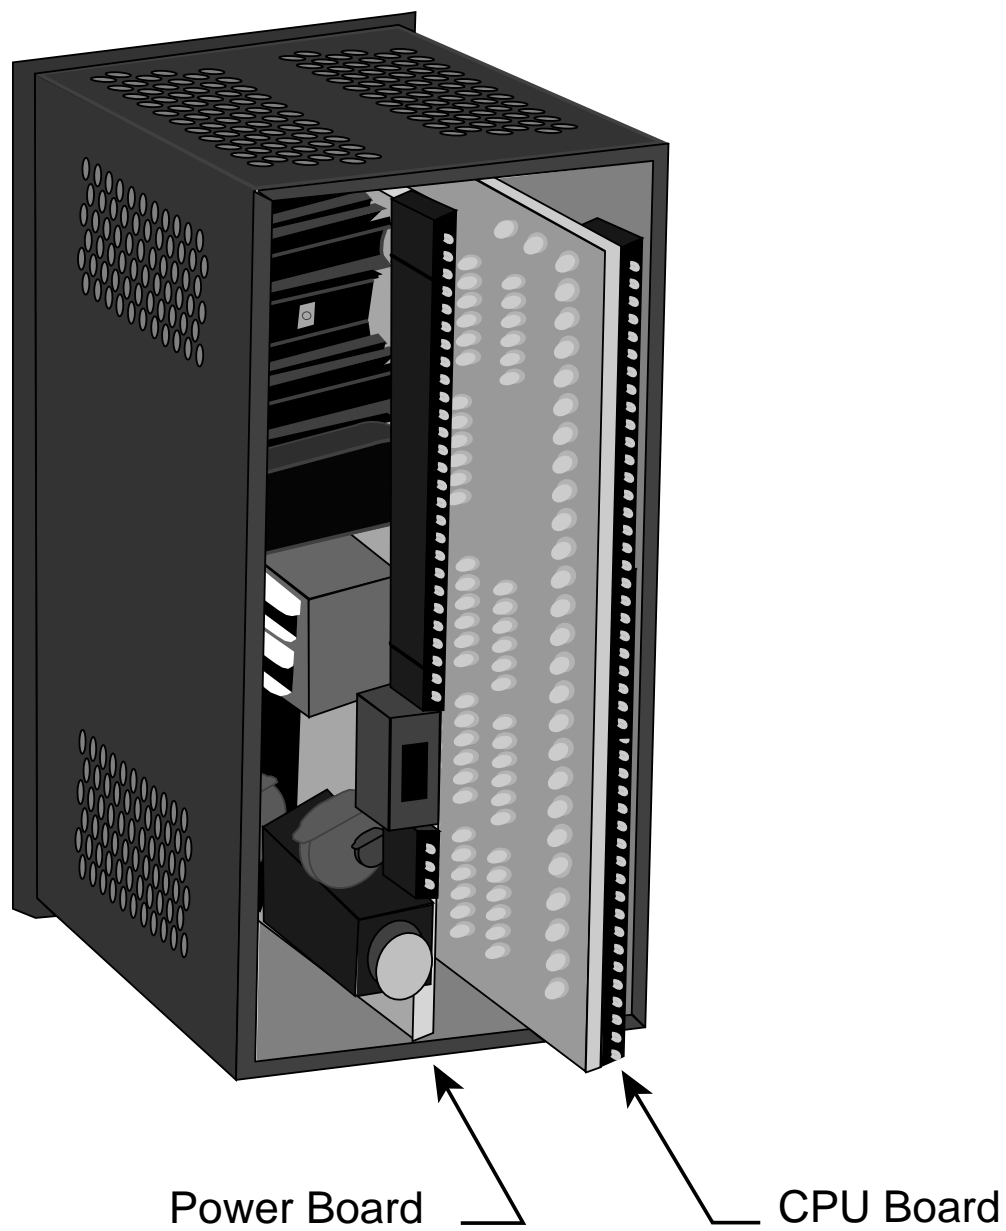

Figure 2-35 Removing the CPU Board
- 6) Remove the CPU Board carefully - pull the CPU board straight out so that you do not bend the card guides or the CPU board, nor damage the internal backplane card-edge connector. See figure 2-35.